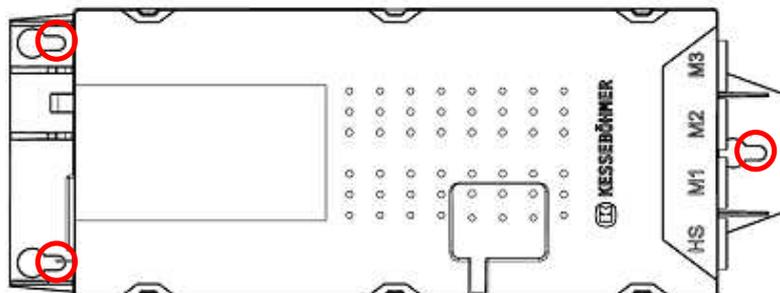

Figure 2: Installation step 2
6. Slide the control unit to the body stop of the 3 holes with the smaller diameter (see Figure 2)